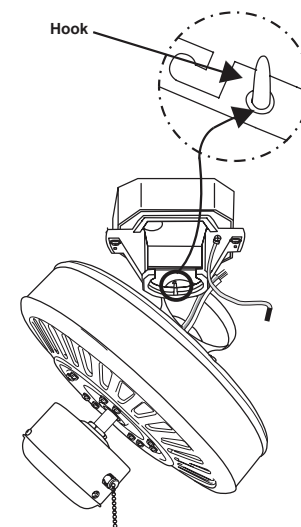

Figure 12
7. Hang the fan on the hook of the hanger bracket. Be certain that the canopy is fully locked into hook as shown in Fig. 12. This will allow you to make the electrical connections.